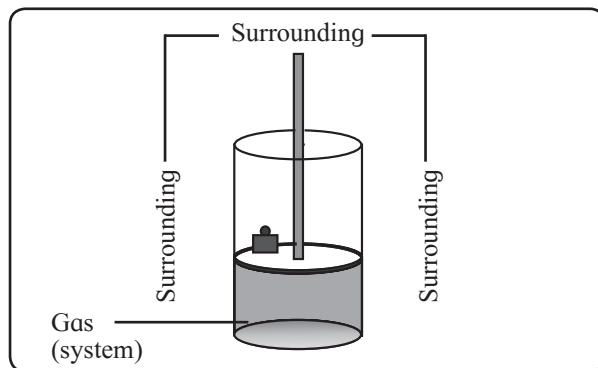

Fig. 4.1 : System and surroundings
4.2.1 System and surrounding : Consider a gas enclosed in a cylinder equipped with a movable piston as shown in Fig. 4.1. Suppose we undertake study of change in volume of a gas and the amount of energy released or gained by a gas when the pressure is varied by
4.2.4 State functions : As shown in Fig. 4.1, certain amount of a gas is enclosed in a cylinder fitted with a movable piston. Suppose the pressure of the gas is 1 bar (P_1), volume is $1 \text{ dm}^3 (V_1)$ and temperature is 300 K (T_1) in the beginning. This initial state of the system is fully defined by specifying the values of these properties. Such properties defining the state of a system, are **state functions**.
Consider a gas enclosed in a cylinder fitted with a movable piston shown in Fig. 4.1. The gas has temperature T_1 , pressure P_1 and volume V_1 . These state functions continue to be constant as long as piston is motionless, and no heat exchange takes place. This is an equilibrium state.